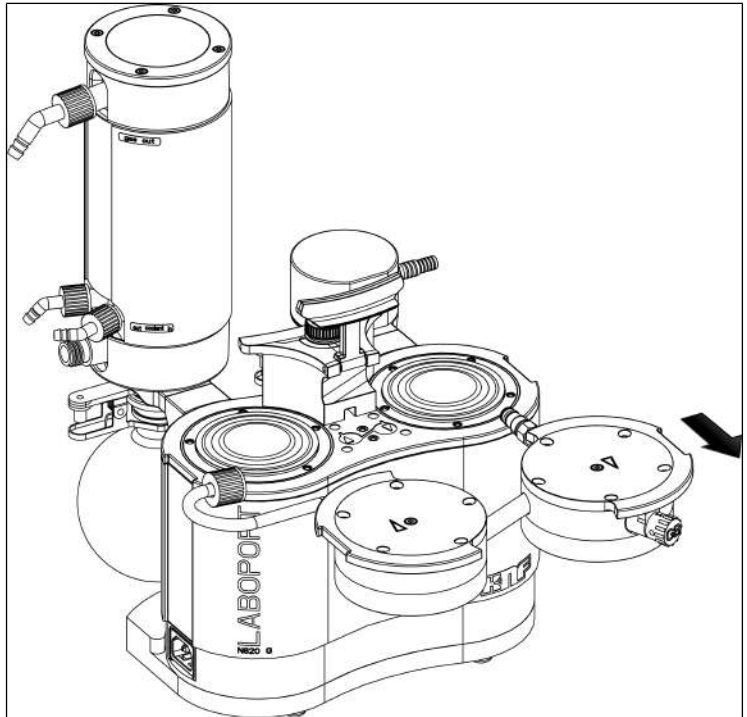

Fig.14: Remove pump heads
3. Carefully remove the pump heads to the side (see Fig. 14).